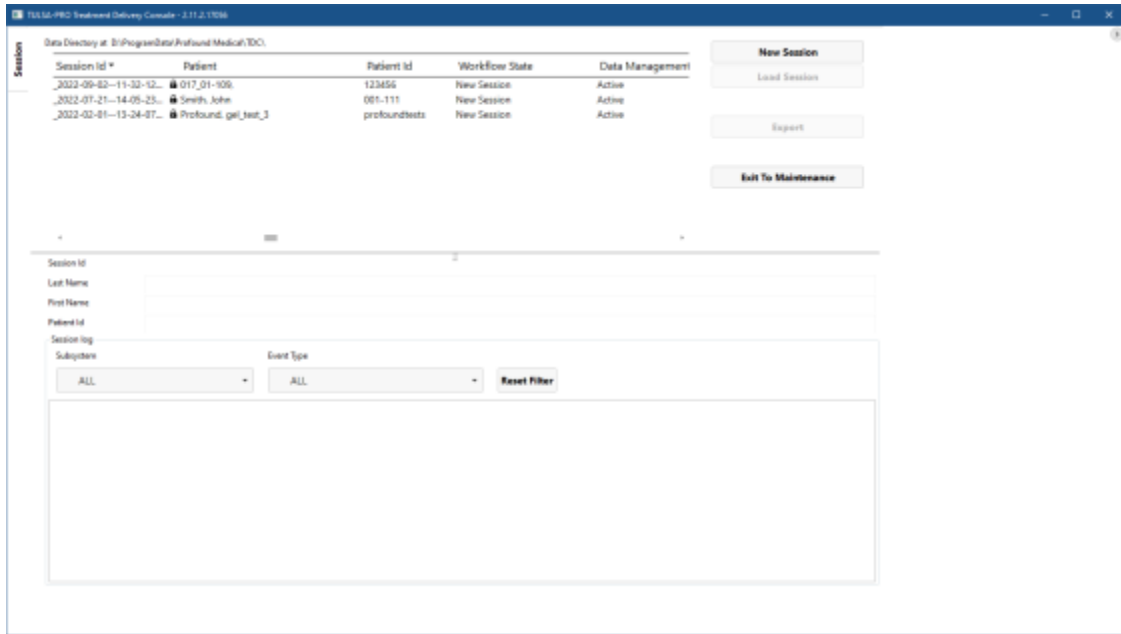

Figure 5: Session Data Management workspace of the TDC Main Menu
1. Launch the TDC software from the desktop. The *Session Data Management* workspace will appear. Click **New Session** (*Figure 5*).